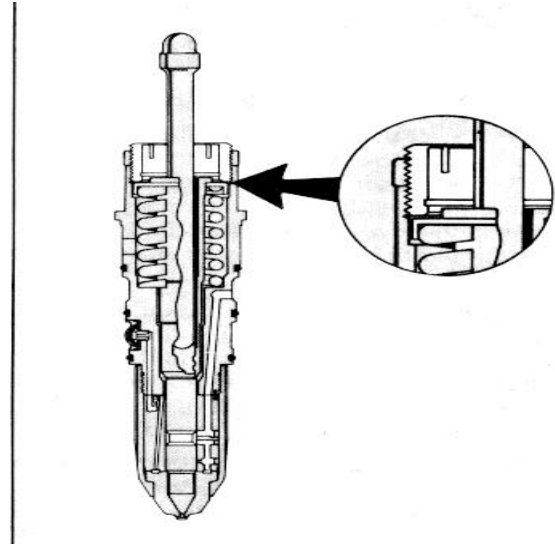

Fig. 14-75. Top-Stop Injector - The Washer Against The Stop.
3. Loosen adjusting screw until the spring washer is against the stop of the injector, Fig. 14-75.